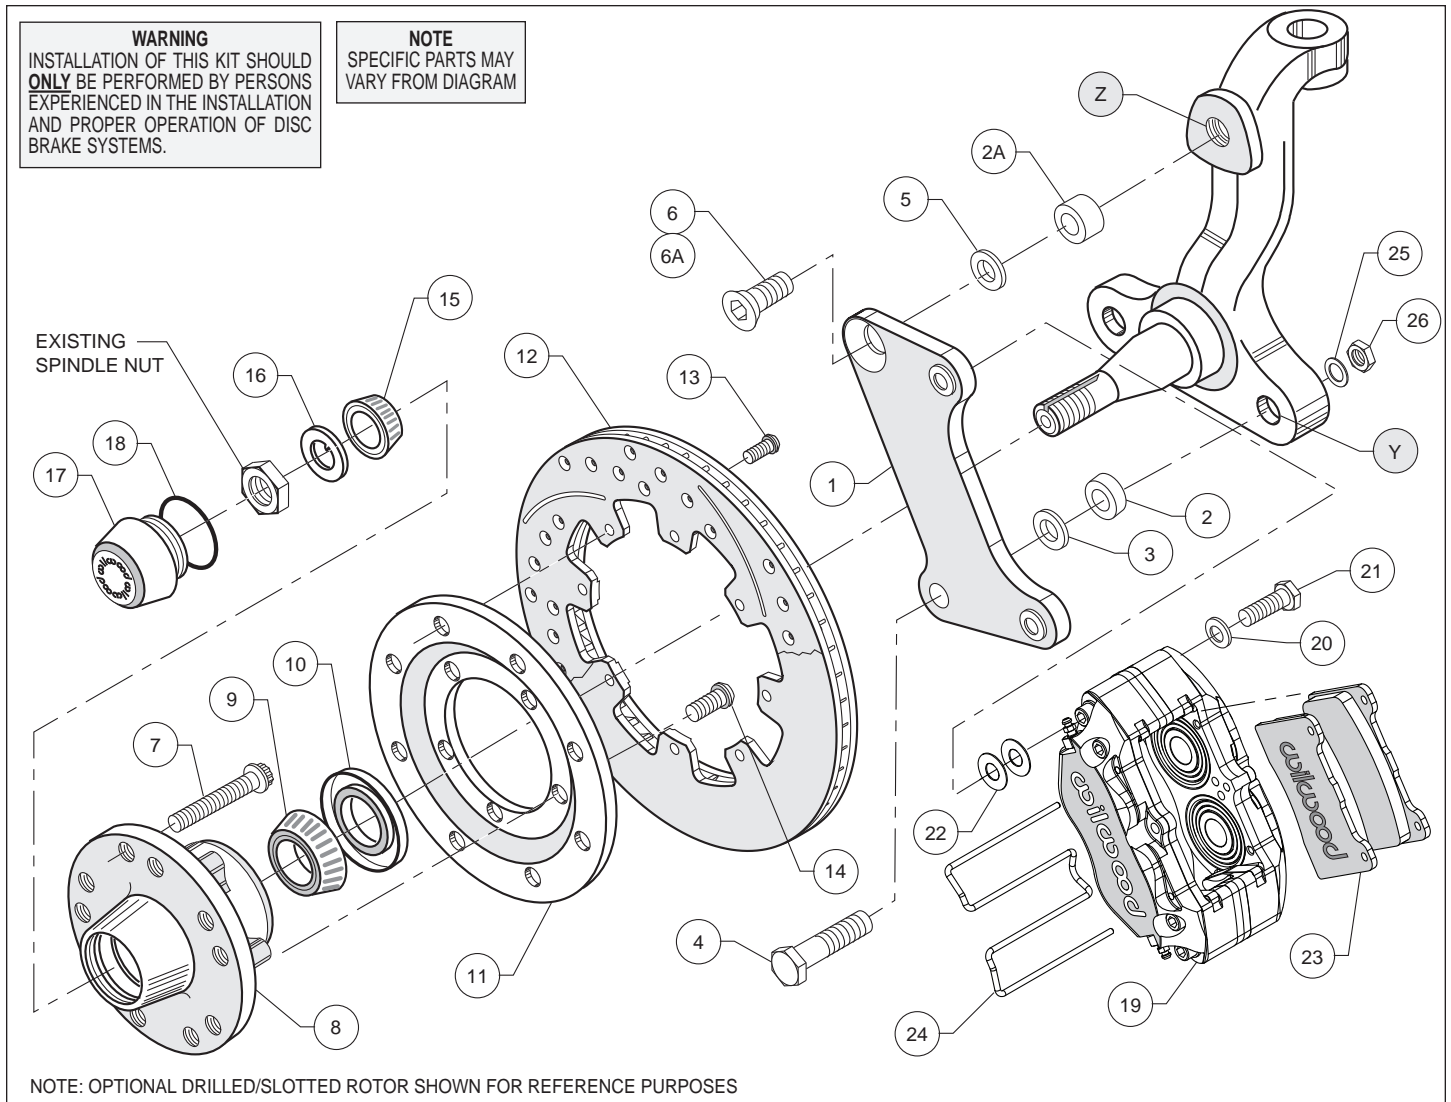
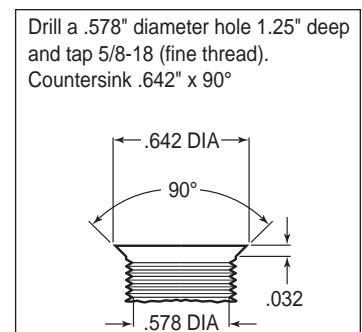
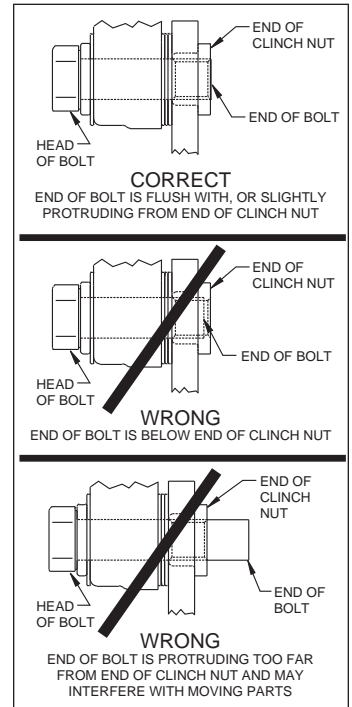

Figure 1. Typical Installation Configuration
Figure 3. Drill and Tap Detail
Figure 4. Clinch Nut Engagement Diagram
CAUTION: All mounting bolts must fully engage insert nuts. Be sure to check that all bolts are either flush or protruding through flanged side of insert nut after shimming, Figure 4.
•**NOTE:** 1964-66 spindles may require the following modifications (reference Figure 1 and Figure 3): Top anchor pin hole (Z) must be drilled and tapped to the dimensions as outlined in Figure 3. Bottom rear steering arm bolt hole (Y) in the spindle and steering arm must be enlarged to .50" by drilling. A 1/2-20 backing nut (not supplied in kit) will need to be acquired to torque bracket / steering arm bolt (supplied in kit).
•Install wheel studs (7) into the hub (8), Photo 1. Torque to 77 ft-lb. **NOTE:** There are two five lug patterns in the hub (5 x 4.50 and 5 x 4.75). Ensure the correct hub stud pattern is being used to fit the wheel application.
•Pack the large inner bearing cone (9) with high temperature disc brake bearing grease (available from your local auto parts store) and install into the backside of the hub (8), Photo 2.
•Install the grease seal (10) by pressing into the backside of the hub (8), flush with the end of the hub, Photo 2.
•Orient the rotor (12) and the rotor adapter (11) as shown in Figure 1 and Photo 3. Attach the rotor to the adapter using bolts (13). Using an alternating sequence, apply red *Loctite*® 271 to the threads, and torque to 25 ft-lb.
- Mount the adapter/rotor assembly (11/12) to the hub (8) using bolts (14), as shown in Figure 1 and Photo 4. Using an alternating sequence, apply red *Loctite*® 271 to the threads, and torque to 55 ft-lb.
- Attach caliper mounting bracket (1) to spindle face using lower bolt (4), washer (3), and a .090" thick spacer (2) positioned between the bracket and the spindle face, as shown in Figure 1. Secure bolt on the backside of the steering arm with nut (26). Finger tighten. Install upper bolt (6) (for drum spindle) or bolt (6A) with spacer (2A) between bracket and spindle (for disc brake spindle). Ensure that the flanged heads of the clinch nuts in the bracket are facing outboard. Temporarily tighten the mounting bolts and install the new hub/rotor assembly (8/12). Check that the bracket is aligned parallel to the rotor, Photo 5. If not, adjust by adding shim washers (3 and/or 5) between spacers (2 and/or 2A) and the bracket, Figure 1. Once the bracket alignment is correct, remove the bolts one at a time, apply red *Loctite*® 271 to bolt threads, and torque upper bolt (6 or 6A) to 120 ft-lb. and lower bolt (4) to 77 ft-lb.
- Pack the small outer bearing cone (15) with high temperature disc brake bearing grease and install into hub (8). Slide the hub/rotor assembly onto the spindle. Secure using spindle washer (16) and OEM spindle nut, Photo 6. Adjust bearings per OEM specifications. Install saved OEM nut lock (if any) and a new cotter pin (not included).
- Install the dust cap (17) onto the hub (8), Photo 7. Friction created by the o-ring (18) on the dust cap (17) keeps it from unscrewing. **NOTE:** The O.D. of the existing OEM spindle washer may be larger than the I.D. of the dust cap not allowing it to seat against the hub face. Therefore, use the spindle washer (16) supplied with the kit instead of the OEM washer.
- NOTE:** Please reference the caution statement at the beginning of the assembly instructions. Mount the caliper (19) onto the caliper bracket (1) using washers (20) and bolts (21), as shown in Figure 1. Initially place two .035" thick shims (22) on each bolt between the caliper and the bracket, Photo 8. Temporarily tighten the mounting bolts and view the rotor (12) through the top opening of the caliper. The rotor should be centered in the caliper, Photo 9. If not, adjust by adding or subtracting shims between the bracket and the caliper. **NOTE:** The end of the bolt must be flush with or slightly protruding from the head of the clinch nut. See Figure 4. Place spare shims (22) between washer and caliper mounting ear to achieve the proper mounting fastener configuration. Always use the same amount of shims on each of the two mounting bolts. Once the caliper alignment is correct, remove the bolts one at a time, apply red *Loctite*® 271 to bolt threads, and torque to 40 ft-lb.
- Install the disc brake pads (23) into the caliper, with the friction material facing the rotor (12) and secure in place using the pad clip retainer (24), Photo 10.